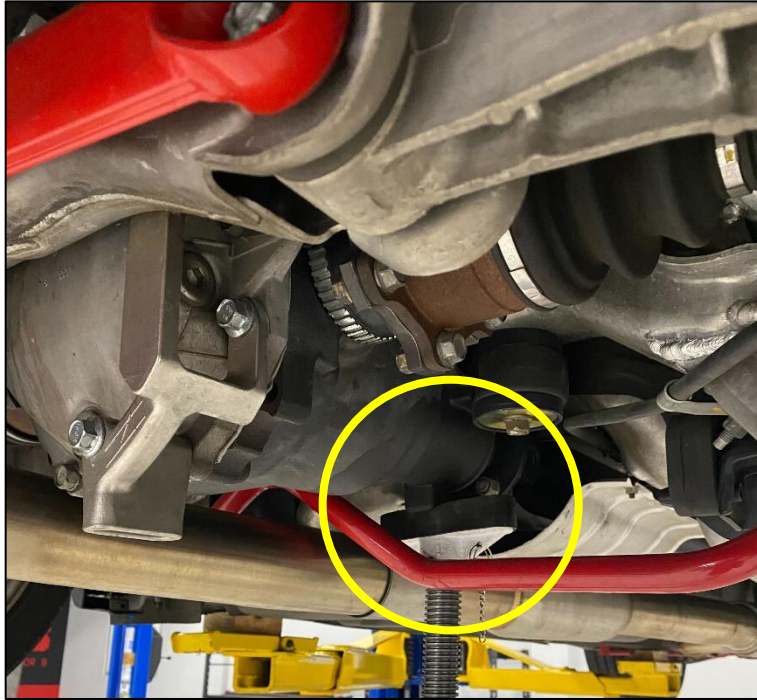

Figure 1
3. Support the Differential with a jack. *Figure 1.*